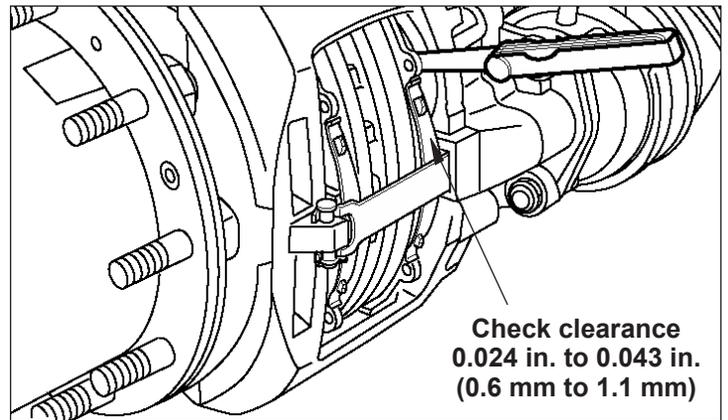

Figure 8 – Running Clearance Check
9. Re-check the running clearance. (See Figure 8.) Readjust if necessary.
10. Install the cap (7).